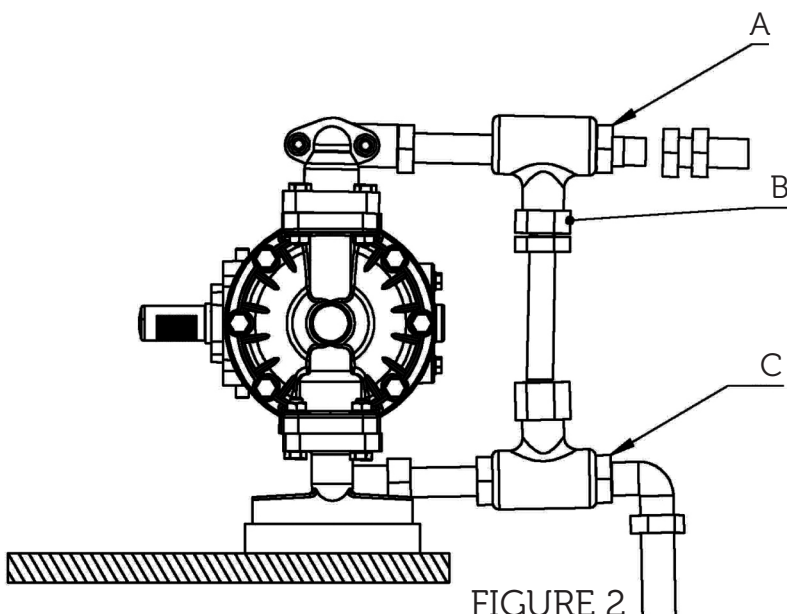

FIGURE 2
Expansion of the fluid in discharge line with increasing temperatures causes increase of pressure within the line. This can be observed in long discharge lines exposed to the sunlight and other environmental factors. This may also occur when the valves in the high pressure pumps supported with diaphragm pump do not function properly. In these cases, it is recommended to set up pressure relief mechanism as it is seen in Figure 2 (by-pass line).
**CAUTION** A pressure relief valve should be used in systems working under high pressure. This by-pass system prevents excessive increase of the pressure, thus penetration of the pump or the hose. (See Figure 2)